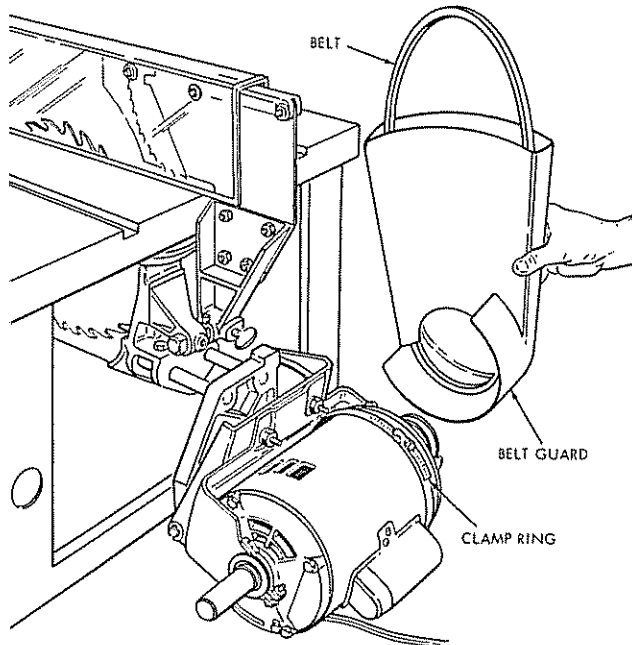

Figure 43
- b. Hold the belt guard as shown in figure 43 and insert the drive belt into the guard as shown. The lower end of belt should contact the inner wall of the guard so it will pass over the motor pulley when the guard is slipped into place.